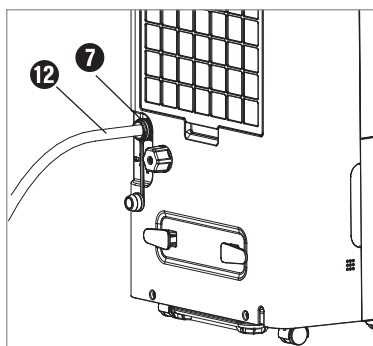

Fig. 3
- ◆ Insert the supplied hose **12** into the water outlet opening **7** (see Figure 3).